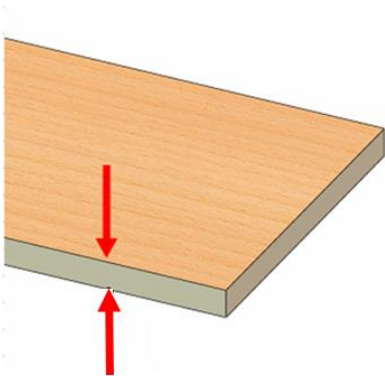

Fig1
- Measure the height of the workpiece (Fig1)